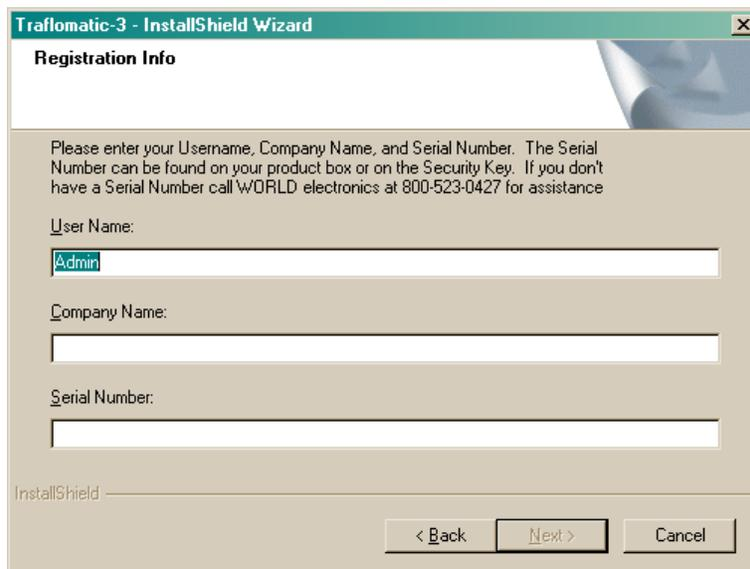

Figure 7
- After selecting **Next**, a **Registration Info** window will appear as in Figure 7. In this window the user will need to fill in the fields beside **User Name:**, **Company Name:**, and **Serial Number:**. The Serial Number can be obtained from a label located on the Trafromatic-III and IV Module's Security Key. A second location where the serial number can be found is the side of the Trafromatic-III and IV Software Module's Product Box.